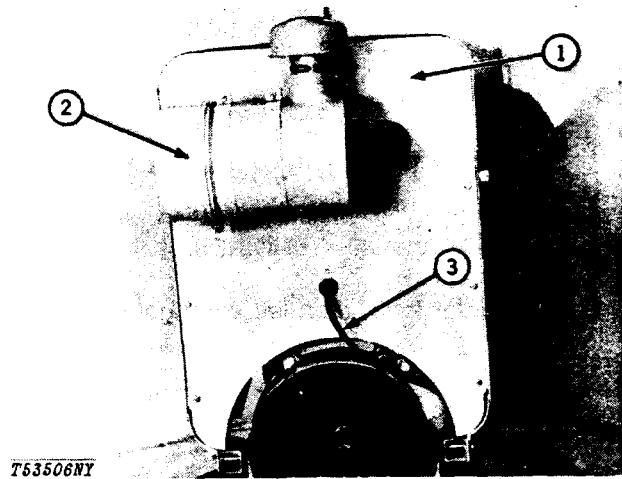

Fig. 3-Engine Enclosure Rear Panel
Disconnect tachometer drive cable (3, Fig. 3) from flywheel housing.
Remove rear panel (1, Fig. 3) with air cleaner (2) attached.